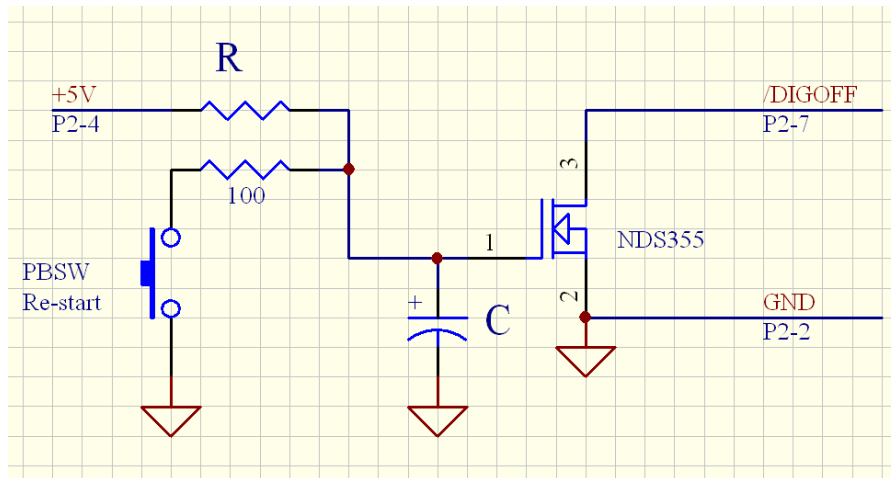

Figure 10. Digital-off power-on start circuit (components provided by kit-builder)
-	1 (lot)	TO-220 mounting hardware: 4-40 x 3/8” screw (1), 4-40 nut (1), #4 flat washer (2), #4 lockwasher (1)	-	(various)
*Note: The prototype ground plane is separate from the Orion main board ground-plane. Refer to Figure 10 for the location of ground pads that can be used to bridge the Orion main ground to the prototype area ground.*
A transistor, such as the NDS355, would be wired as shown in Figure 10. Choose  $RC > 0.25$  to allow sufficient time for the MCU to power on and configure the PLL. For example,  $R = 30.1 \text{ K}\Omega$  and  $C = 10 \mu\text{F}$  should provide sufficient delay to allow the PLL to configure once power is applied. An optional momentary switch to GND and a series 100 ohm resistor connected to the transistor gate would allow one to “re-start” the PLL by temporarily applying power to the digital circuits for as long as the switch is closed.